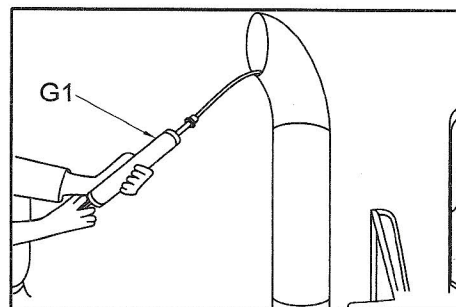

Fig. 05-04
- (1) Measure with portable smoke-tester G1 (Please see Fig. 05-04)